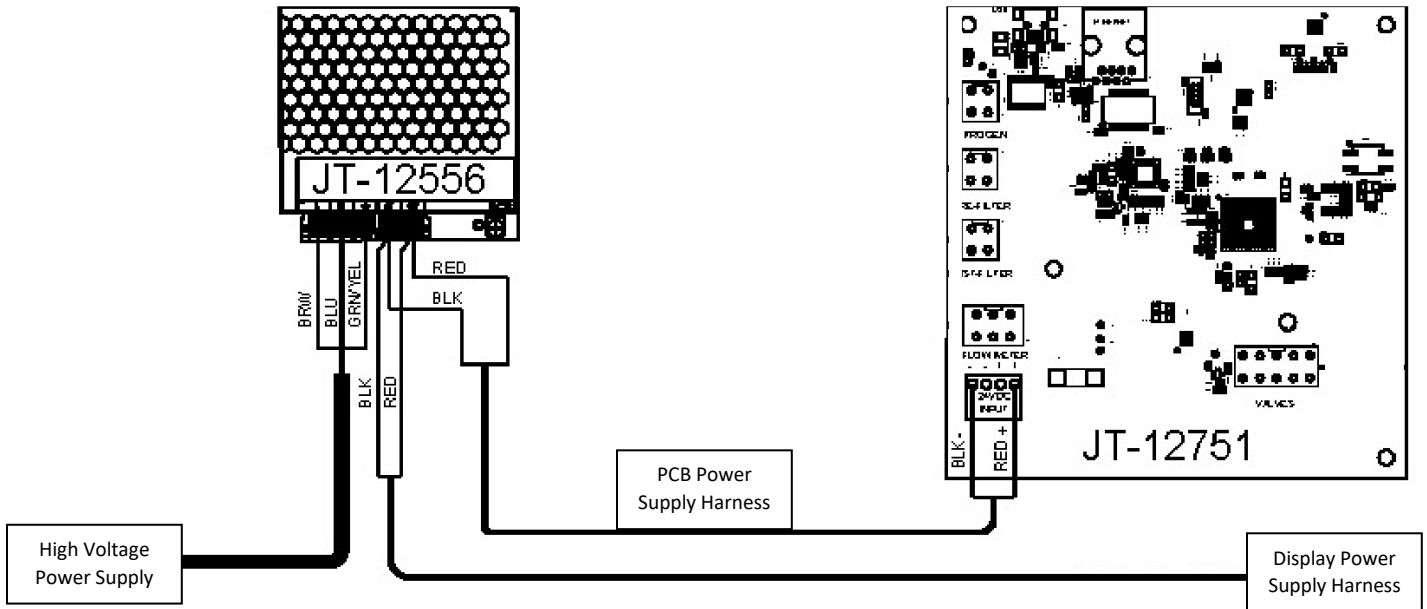

Figure 4: Power Supply Cables Schematic.
- a. If PCB is NOT receiving power, verify the rest of the connections to the Power Supply seen in **Figure 4**. The Brown Wire from the High Voltage Power Supply should be connected to L socket on the Power Supply. The Blue Wire from the High Voltage Power Supply should be connected to the N socket on the Power Supply. The Green Wire from the High Voltage Power Supply should be connected to the Ground Socket in the Power Supply.